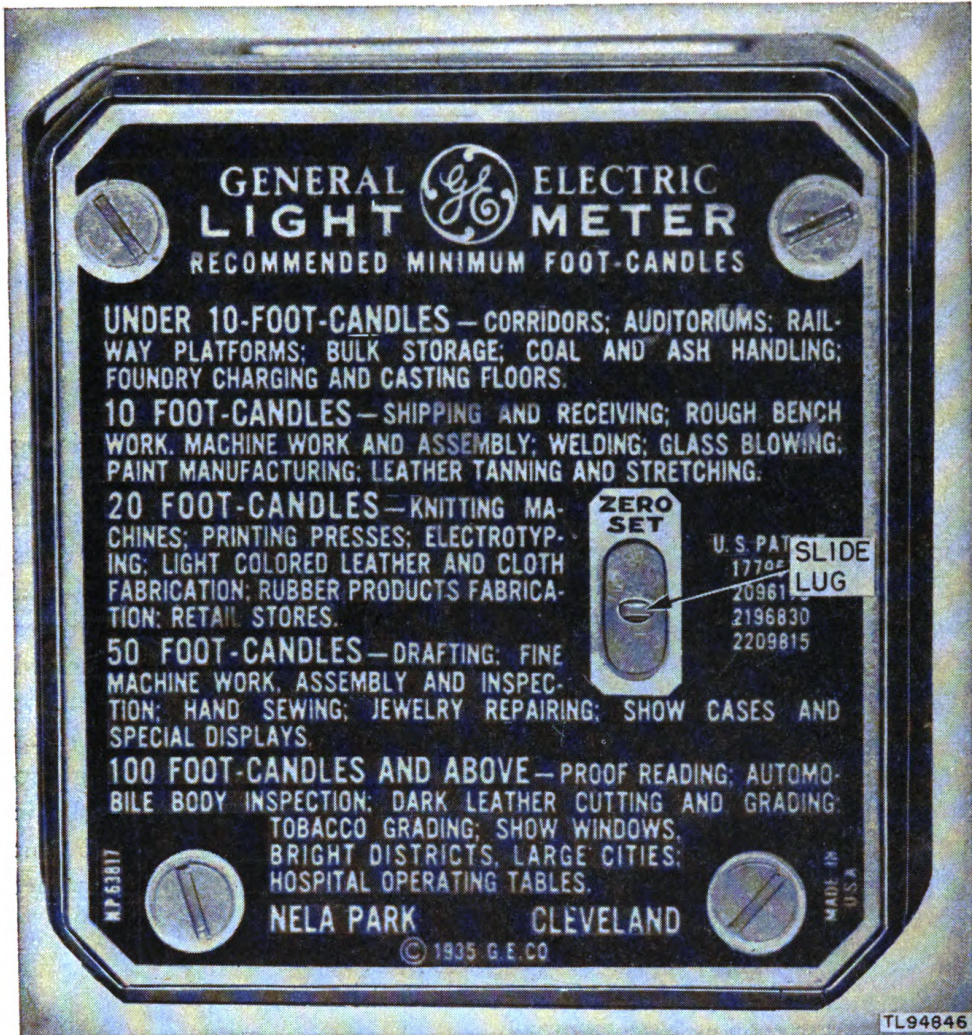

Figure 2. Backplate of light meter.
b. BACK (fig. 2). The back of the light meter is fitted with a zero adjusting slide lug for positioning the microammeter needle to zero. The backplate of the light meter lists the recommended light intensities for performing certain jobs and for work in various localities.
a. ZEROING METER (fig. 2). The light meter must be checked occasionally to see that the needle is pointing to zero when no light is reaching the cell. An adjusting slide lug is built into the backplate of the case and labeled ZERO SET. To zero the meter, cover the cell window with a light-proof piece of cloth or other material to exclude all light from the cell, and move the lug either up or down until the needle points exactly to zero. To insure accurate readings, make this adjustment before each use of the instrument, with the meter in the position in which it is to be used; that is, vertical or horizontal.